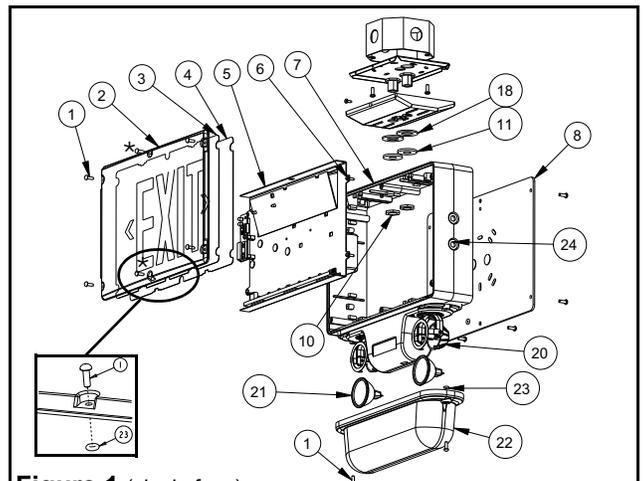
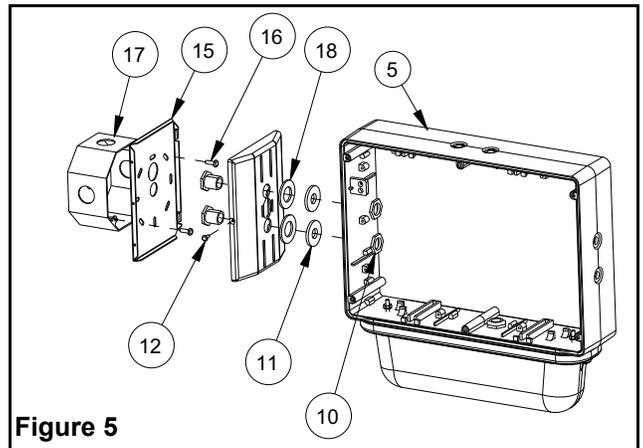

Figure 1 (single face)
Figure 5
- c. Remove proper knockouts in canopy backplate for desired mounting position. **For Nexus wired option**, install the liquidtight™ fitting, provided with the unit. For side mount, use the knockout located on top of the unit. For ceiling mount, use the knockout located on side of the frame (see fig. 5).
- e. Make sure the securement screw is accessible (see fig.1 & 2 part # 12). Use existing screws in junction box to secure canopy backplate to the junction box.
- h. Determine which holes in the exit frame will be used for mounting (see fig. 1,2 & 5). Support frame with two blocks of wood, maximum one inch apart. Strike knockouts with a hammer and screwdriver. Clear holes of burrs to allow proper assembly of nipple/wire assembly. Note: end mount installation is weatherproof but not certified for Nema 4X (see fig. 5).
- i. Secure canopy to the frame by threading the provided nipple/wire assembly through the canopy and frame. Make sure the gasket washers are between the canopy and frame, and that the locknuts(10) are inside the exit sign (see fig. 5).
7. Install the lens-legend by using the 6 tamper-proof screws. The o-rings have to be installed on the center screws between the lens-legend and the frame (see fig. 1 & 2). **Note: The tamper-proof screws should be equally torqued to approximately 10 - 15 in-lbs (1.1 - 1.7 N-m).**
Slot head screws and knock-out covers (see fig. 1 part 1 & 24) are available in the hardware kit. To comply with food processing facilities the tamper-proof screws must be removed and replaced with the flathead screws provided. The covers must be installed on the knockouts to avoid any accumulation of contaminants. Note: some detergent used in the food processing industry can affect durability of polycarbonate lens (see fig. 1 part 2 & 22).